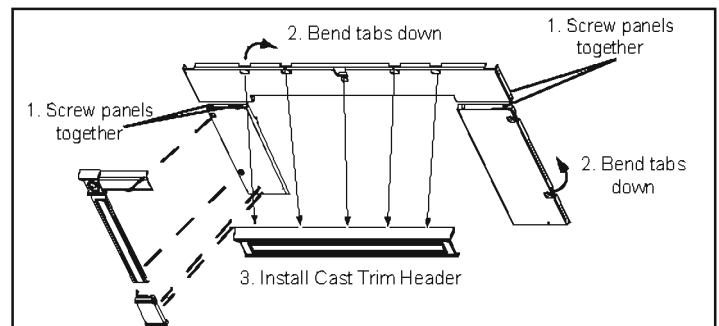

Figure 19.4
**Included in Surround Kit:** (2) side panels, left and right; (1) panel top; (1) fastener package.
**Included in Cast Trim Kit:** (2) cast trim legs, left and right; (1) cast trim header; (2) cast trim footers, left and right; (1) fastener package.
4. Now bend the tabs down toward the backside of the panel set, 5 on top and 2 on each leg. Leave the panel set face down. **Figure 19.4**